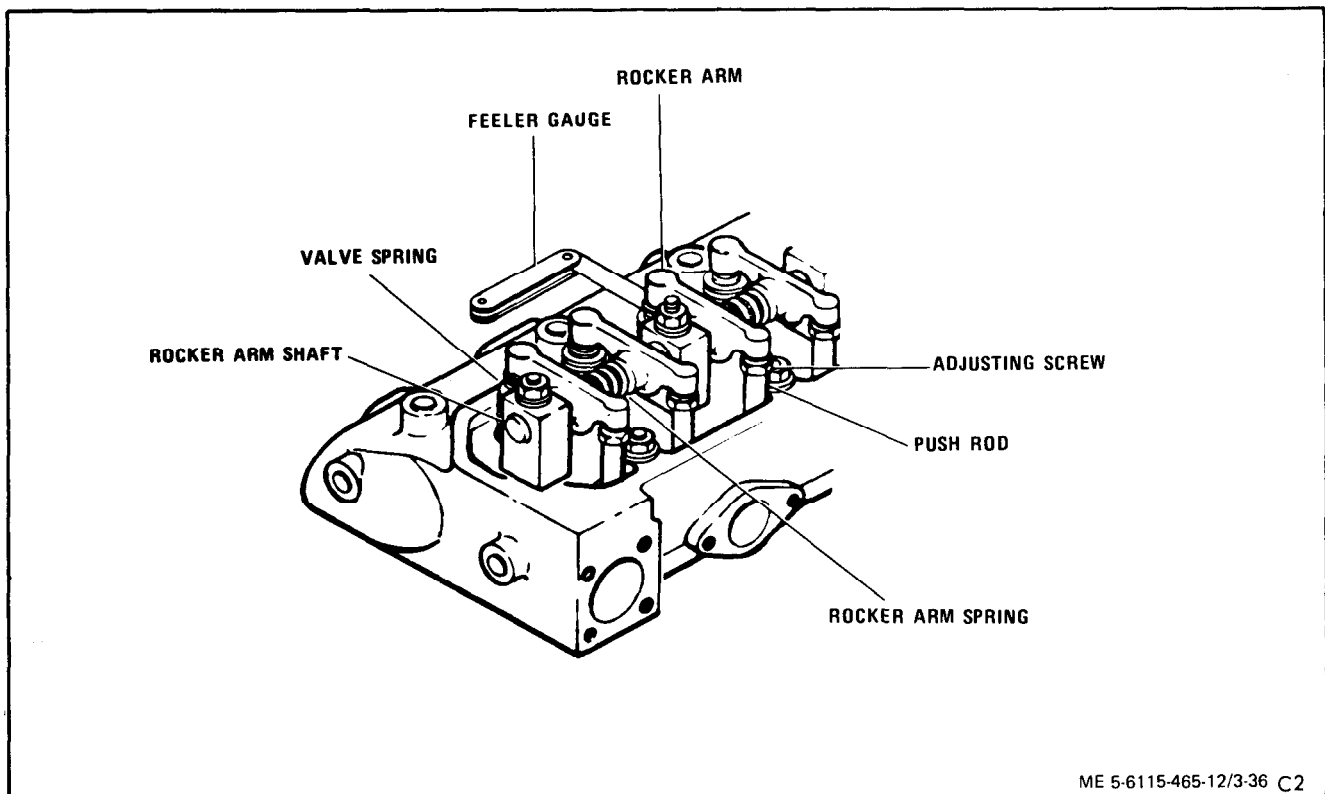

Figure 3-36. Rocker Arm Assembly Inspection and Value Tappet Clearance Adjustment
d. Inspect valve rocker arm assembly as follows (figure 3-36).
(1) Check adjusting screw, rocker arms, and shaft for cracks and indications of excessive wear.
(2) Inspect springs for distortion, cracks, and breaks.
(3) Check the oil hole in each rocker arm for plugging. Use a small wire and compressed air to clean plugged oil holes.
- d. Using a feeler gauge, check clearance between the valve stem and the rocker arm on both intake and exhaust valves (figure 3-36). Clearance should be 0.015 hot.